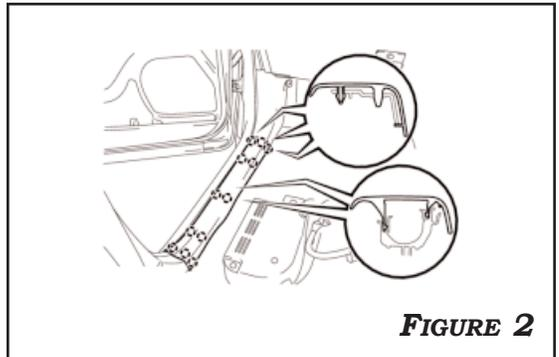

FIGURE 2
2. DISENGAGE THE 12 CLAWS AND REMOVE THE DRIVER SIDE DOOR SCUFF PLATE. **FIGURE 2**